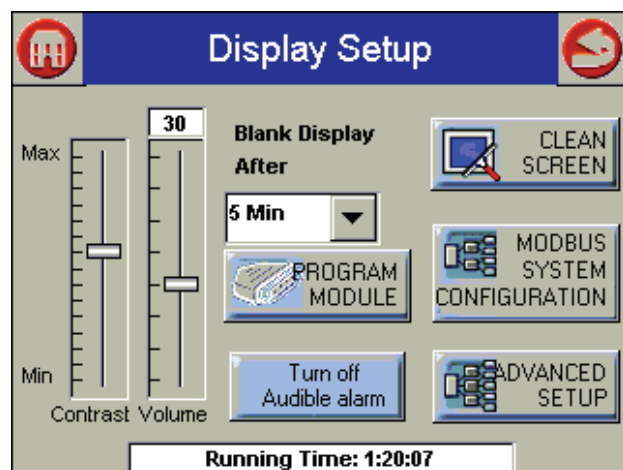

Fig. 47 - Display Setup Screen
1. From the Home Page, press the Setup button. Figure 47 shows the Display Setup screen.